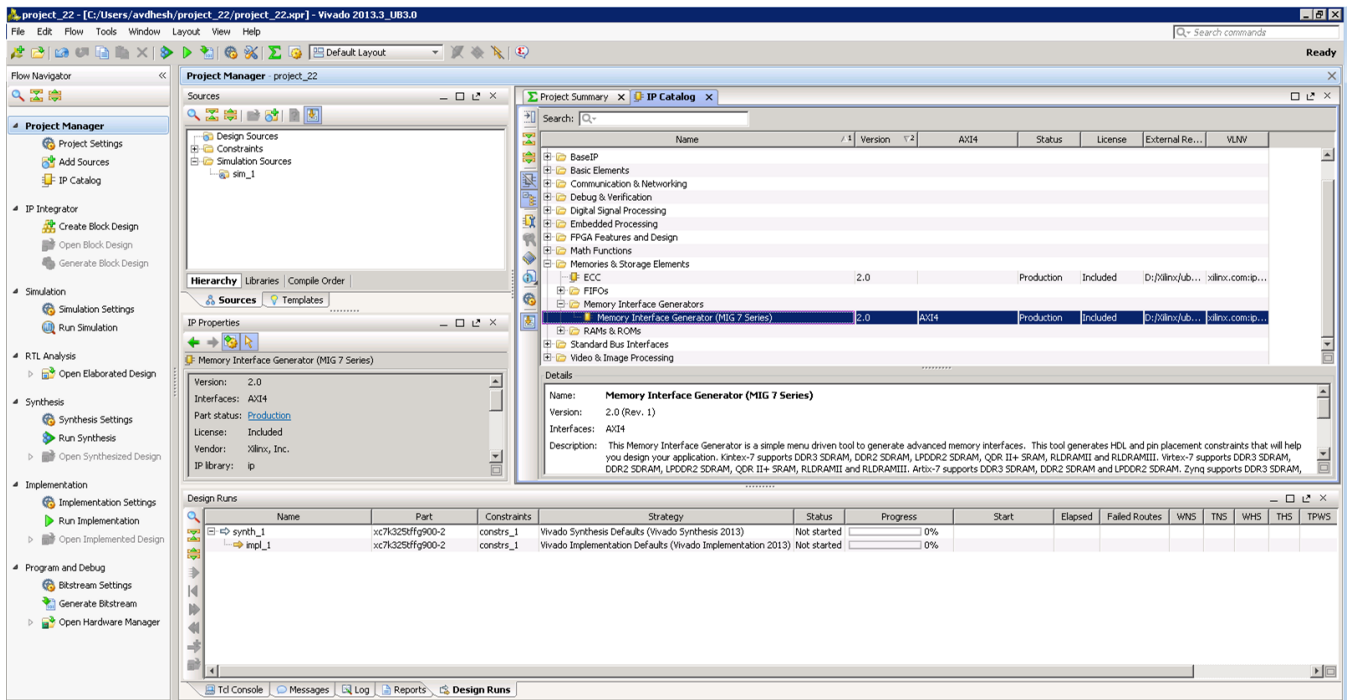

Figure 2-12: IP Catalog Window – Memory Interface Generator
- Click **IP Catalog** on the **Project Manager** window to open the Vivado IP catalog window. The IP catalog window appears on the right side panel (see Figure 2-12, highlighted in a red circle).
- The MIG tool exists in the **Memories & Storage Elements > Memory Interface Generators** section of the IP catalog window (Figure 2-12) or you can search from the Search tool bar for the string "MIG."